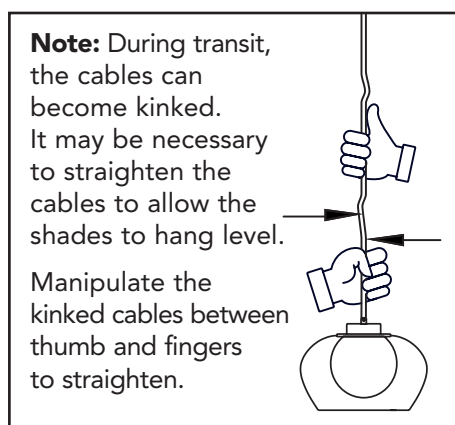

Fig. 1
To fit the glass shades first rotate the outer shades (9) 180°. Place the rubber washers (10) inside the shades followed by the inner shades (11) see Fig. 1. While carefully holding onto both shades, flip the assembly.